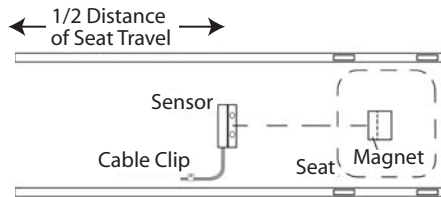
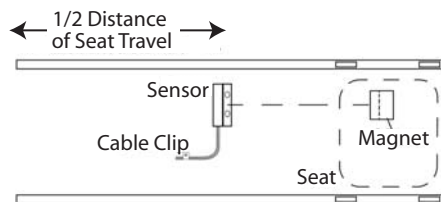
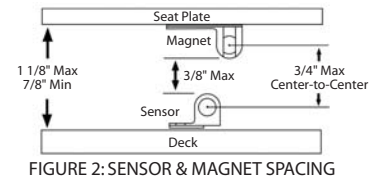

FIGURE 1a: SENSOR & MAGNET INSTALLATION (Sensor Installed on Centerline of Seat)
FIGURE 1b: SENSOR & MAGNET INSTALLATION (Sensor Offset Centerline of Seat)
FIGURE 2: SENSOR & MAGNET SPACING
Refer to Figures 1a and 1b. Note the position of the sensor - it should be close to the center of the seat travel and it **MUST** be perpendicular to the long axis of the shell.
It is not necessary for the sensor and magnets to be centered between the rails as shown in Figure 1a. They may be positioned off center as shown in Fig 1b. However, the holes in the magnet assembly **MUST** pass directly over the holes in the sensor. The dashed horizontal line in each figure indicates the correct alignment.
Because the distance between the seat plate and the deck varies considerably from shell to shell, you should start by measuring this distance. Refer to Figure 2 on the next page.
- If the distance measured as in Figure 2 is between $\frac{7}{8}$ " and $1\frac{1}{8}$ ", you may mount the sensor and magnet with no further adjustment.
- If the distance measured as in Figure 2 is **GREATER** than $1\frac{1}{8}$ ", you will need to make a spacer of appropriate thickness. You may choose to shim the sensor or the magnet; whichever is easier. **DO NOT** use any magnetic material for your shim. Many boat builders have shims designed to fit their particular seats.
- If the distance measured in Figure 2 is **LESS** than $\frac{7}{8}$ ", the magnet and the sensor will interfere. Try mounting the magnet on the upper side of the seat plate or the sensor on the underside of the deck. As a last resort, you will have to remove material from either the seat or the deck (this almost never needs to be done).
- 5) Return the stroke seat to its slide and check that the clearance between the magnet and sensor is no more than 3/8" (refer to Fig 2). Check also that the magnets pass directly over the sensor (refer to Figures 1a, 1b).